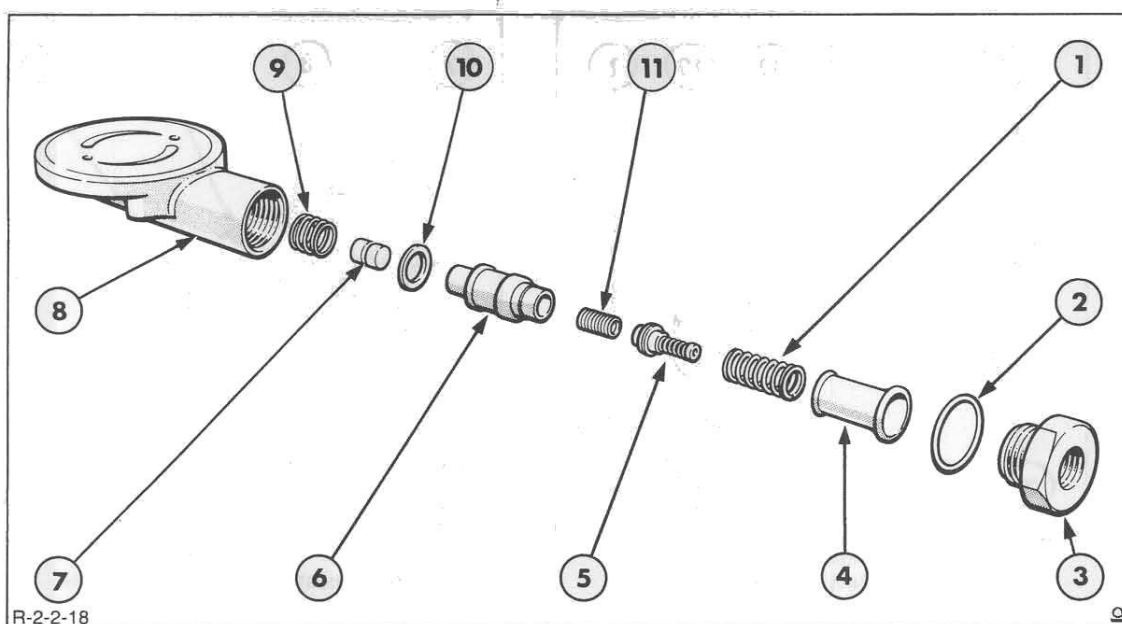

Figure 31
15. Re-assemble the end plate as follows, referring to Figure 31 for component identification.